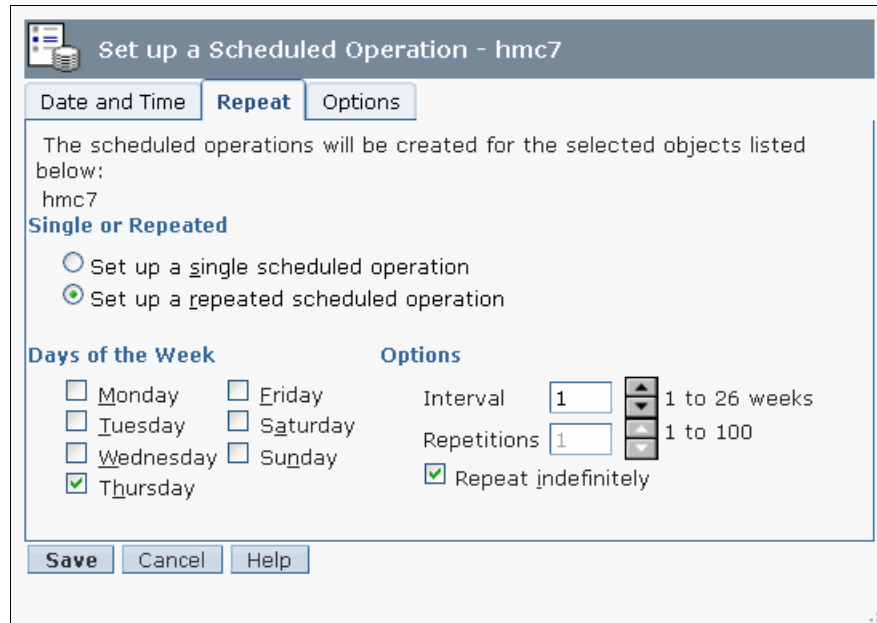

Figure 6-48 Scheduled backup HMC Data Repeat Option
4. On the Repeat tab, select the repeat options for the backup (Figure 6-48).